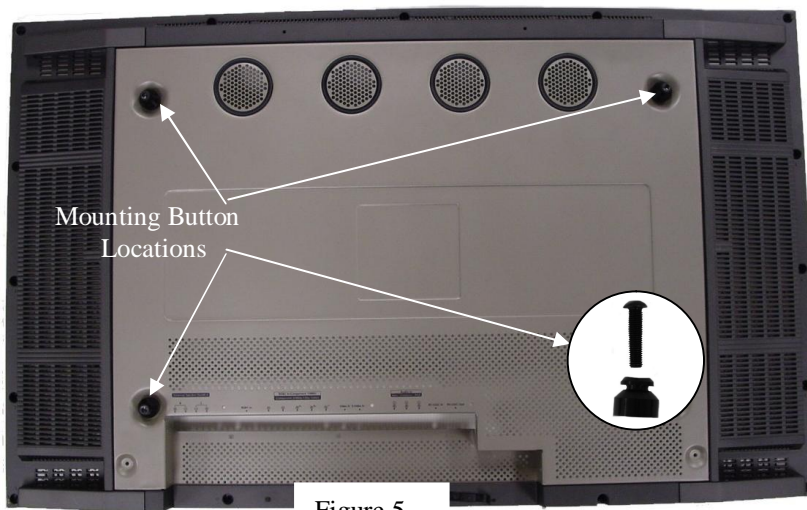

Figure 5
1. Attach four mounting buttons to display using four M8 x 35mm button head cap screws provided (see Figure 5). Use longer screws for screens with deep recessed threaded holes.